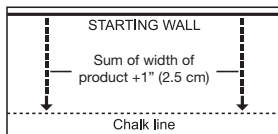

Figure 6
- In at least two places, at least 18 in. (46 cm) from the corner, measure out equal distance from the starting wall (Figure 6) and snap a chalk line. The measurement must be the sum of the width of the flooring plus an additional 3/8 in. (9.5 mm) to allow for 1/4 in. (6 mm) expansion of space and the width of the tongue. Allow 1/2 in. (13 mm) expansion when installing floating floors.